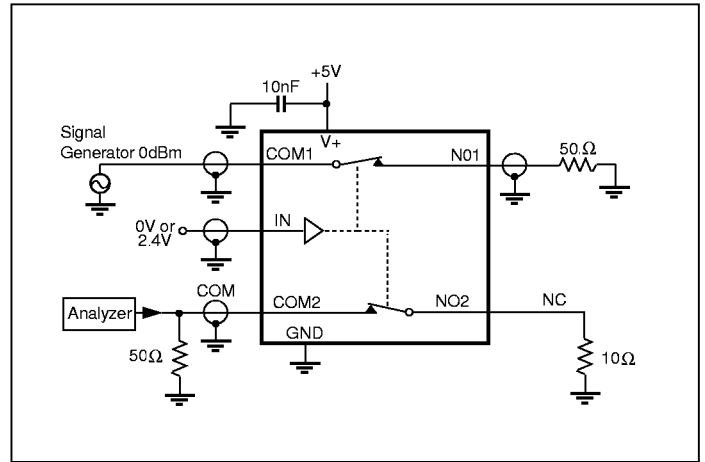

Figure 4. Crosstalk
8. Between any two stitches. See figure 4.